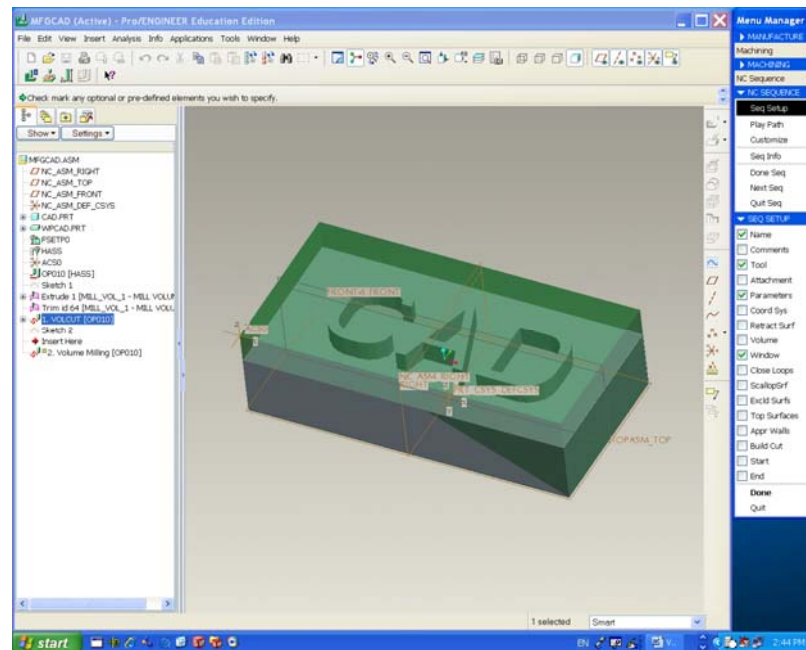

Figure 1.39
2. SEQ SETUP window pops up. Ensure that **name**, **tool**, **parameters**, and **window** are checked and then choose DONE. (Figure 1.39).